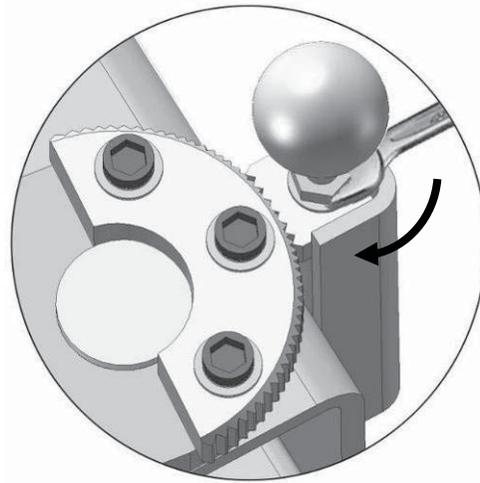

Fig. 34
4. Adjust the teeth of arm lock assembly. Make it mesh with the gear on the lifting arm. Tighten the hex bolts on the arm lock assembly (**See Fig. 34**).